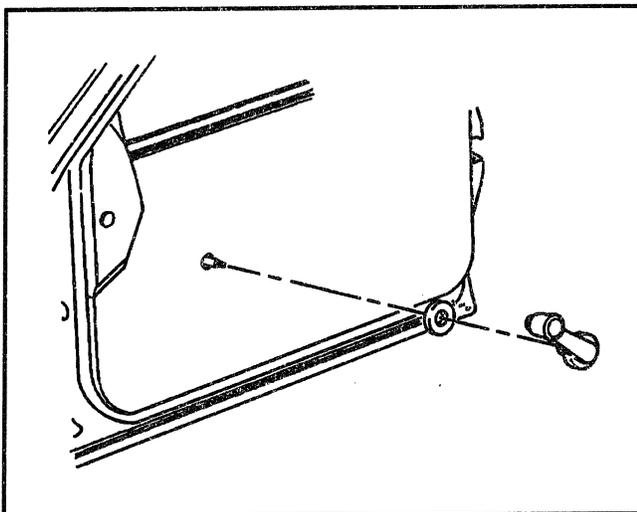

Figure 1—Window Regulator Handle and Bearing Plate
Remove or Disconnect (Figure 1)
- A. Insert J 9886-01 between the handle and bearing plate (Figure 1).
- B. Align the tool and push to disengage the clip (Figure 1).
2. Bearing plate (Figure 1).
Install or Connect (Figure 1)
1. Bearing plate to door (Figure 1).
2. Window regulator handle (Figure 1).